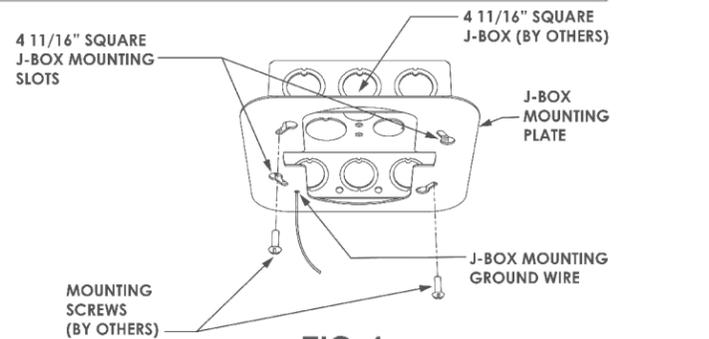

FIG. 1
2. Align slots and secure J-BOX MOUNTING PLATE to J-BOX using MOUNTING SCREWS. Face J-BOX MOUNTING GROUND WIRE downward. Make sure J-BOX MOUNTING PLATE is firmly against the ceiling. Do not overtighten MOUNTING SCREWS, this could distort the J-BOX MOUNTING PLATE. (FIG. 1)